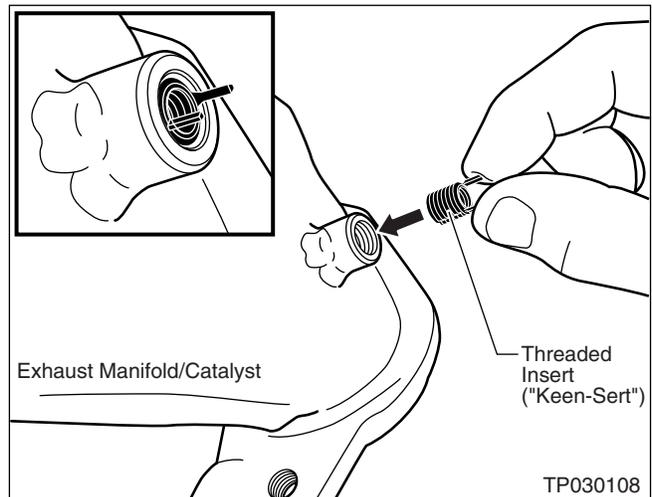

Figure G6
8. Screw the Threaded Insert all the way (clockwise) into the newly threaded hole (see Figure G6).
- Make sure the top thread of the Threaded Insert is flush with top of the hole (see Figure G6).